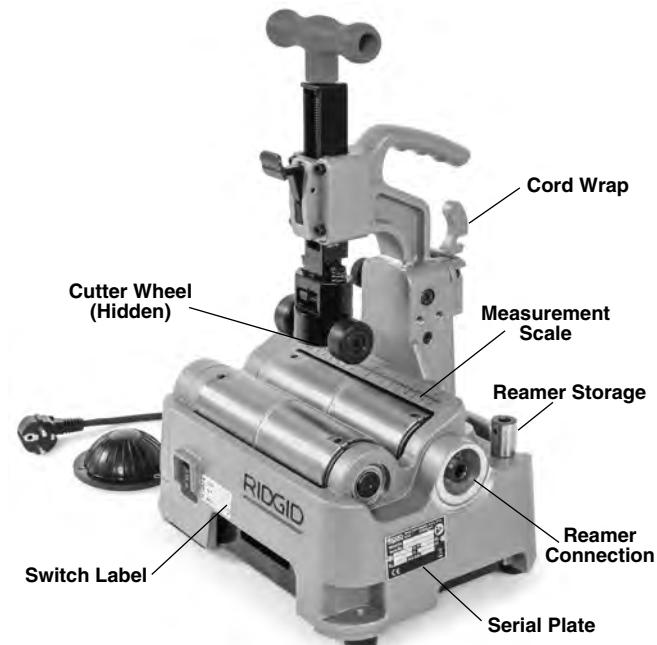

Figure 1 – RIDGID® PC116/PTC-400 Power Tubing Cutter
- Presence and readability of the warning and other labels (See *Figure 1*).